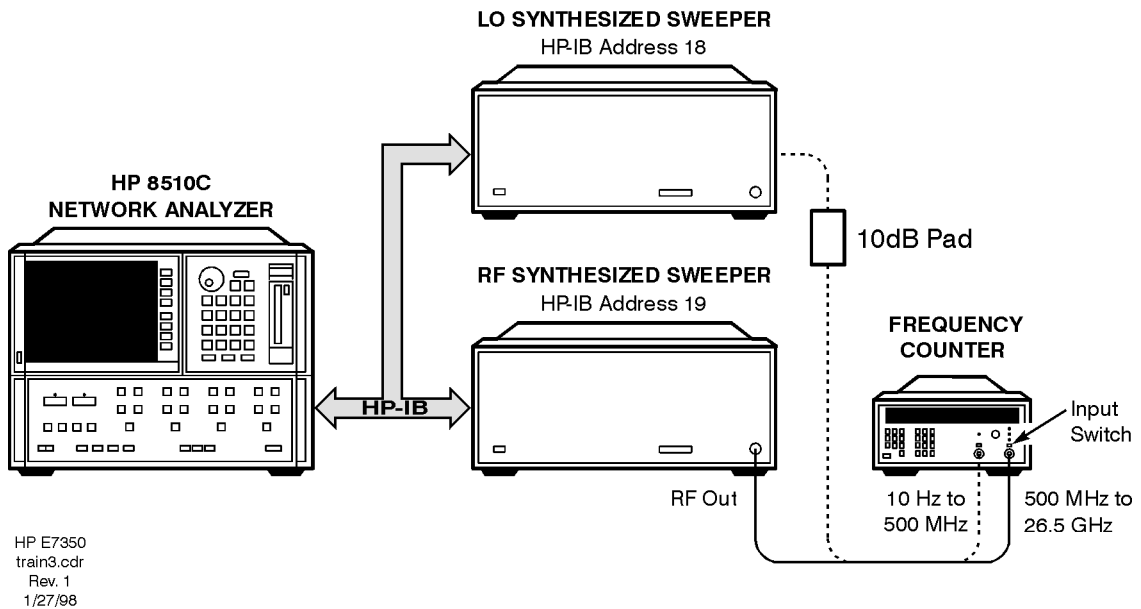

Figure 4-1 CW frequency accuracy equipment setup
1. Connect the equipment as shown in Figure 4-1.